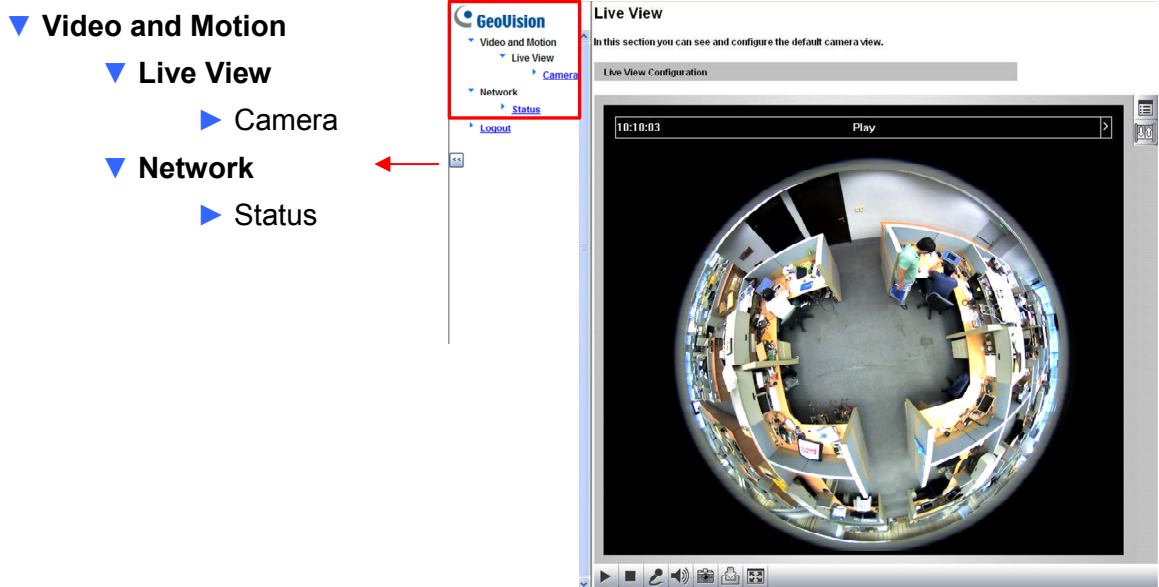

Figure 3-2
4. A video image, similar to the example in Figure 3-2, is now displayed in your browser.
The camera can process one video stream in two different codec and image settings. In the Administrator mode, both streams are available. Click Streaming 1 or Streaming 2 in the left menu to access the live view. In the Guest mode, only one stream is available, as shown in Figure 3-2.